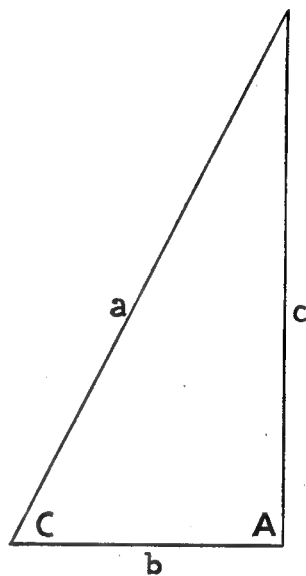

Fig. 2
The geometrical basis of the principle is noted in Fig. 2. The base of the triangle b is the distance between centres of M1 and M2 (or P and S). Angle A is a right angle while the other angle at the base (C) can be measured.